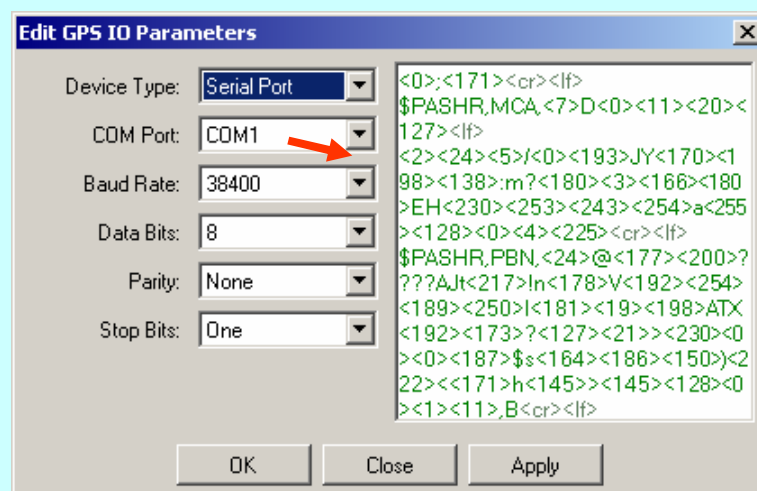

Figure 12 Notification window
d) Now select the drop down arrow against the Baud rate and select 9600 (Figure 12).